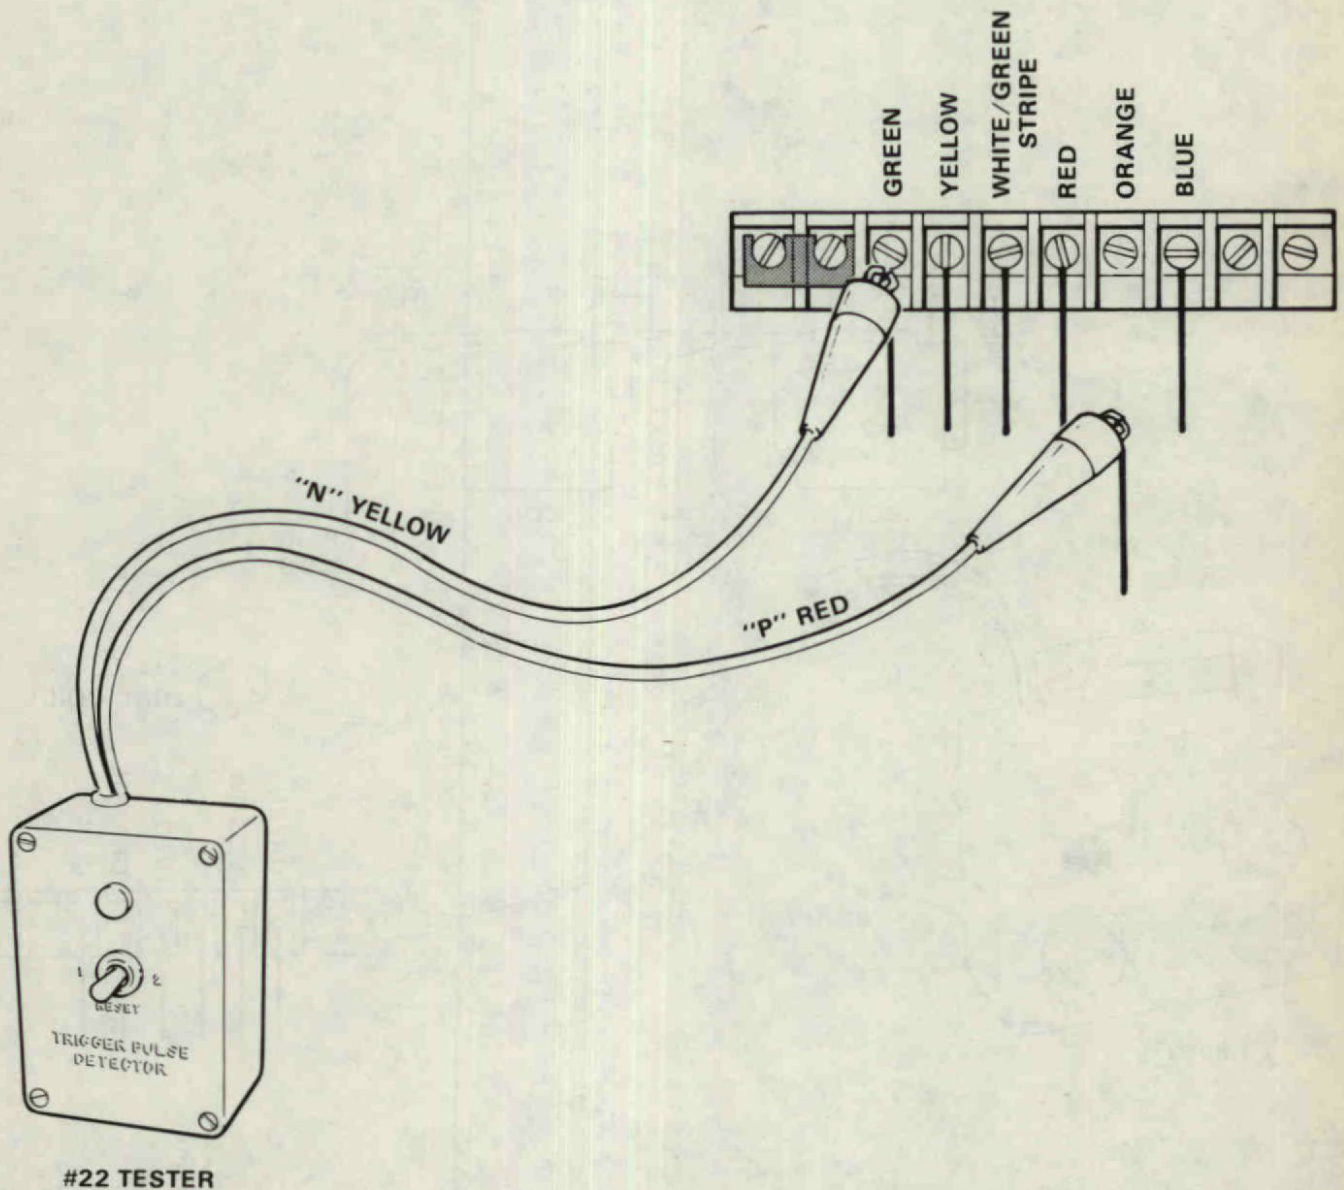

Figure 8
2. Connect "P" lead (red) of #22 Tester to orange wire, Figure 8.
3. Connect "N" lead (yellow) of #22 Tester to green wire terminal on terminal block, Figure 8.